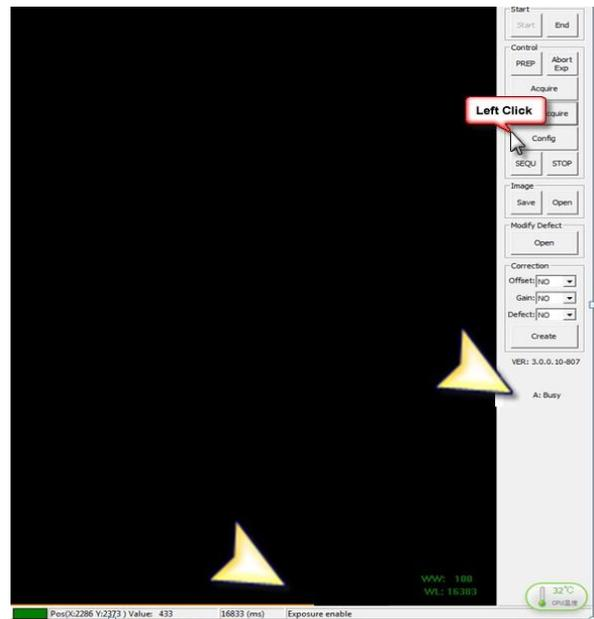

Figure 9
- d. Familiarize yourself with the status messages. **Figure 9**
- e. Click config button on the right hand side, to view and change settings for the panel. **Figure 9**